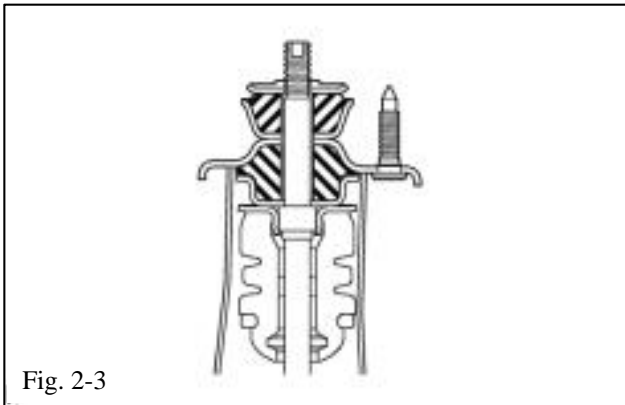

Fig. 2-3
- (c) Ensure the cushions and washer (lip turned up) are assembled in the correct direction and order (Fig. 2-3).